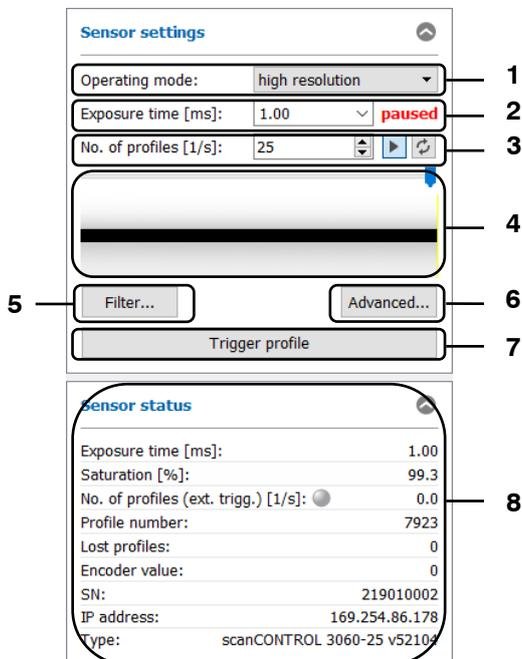

Fig. 3.12: "Sensor settings" input field
-  **Start/Stop data transfer from sensor:** Starts/stops the data transfer from the sensor. When the data transfer is stopped, a correspondent status message is displayed above the button (see Fig. 3.12, section 1)